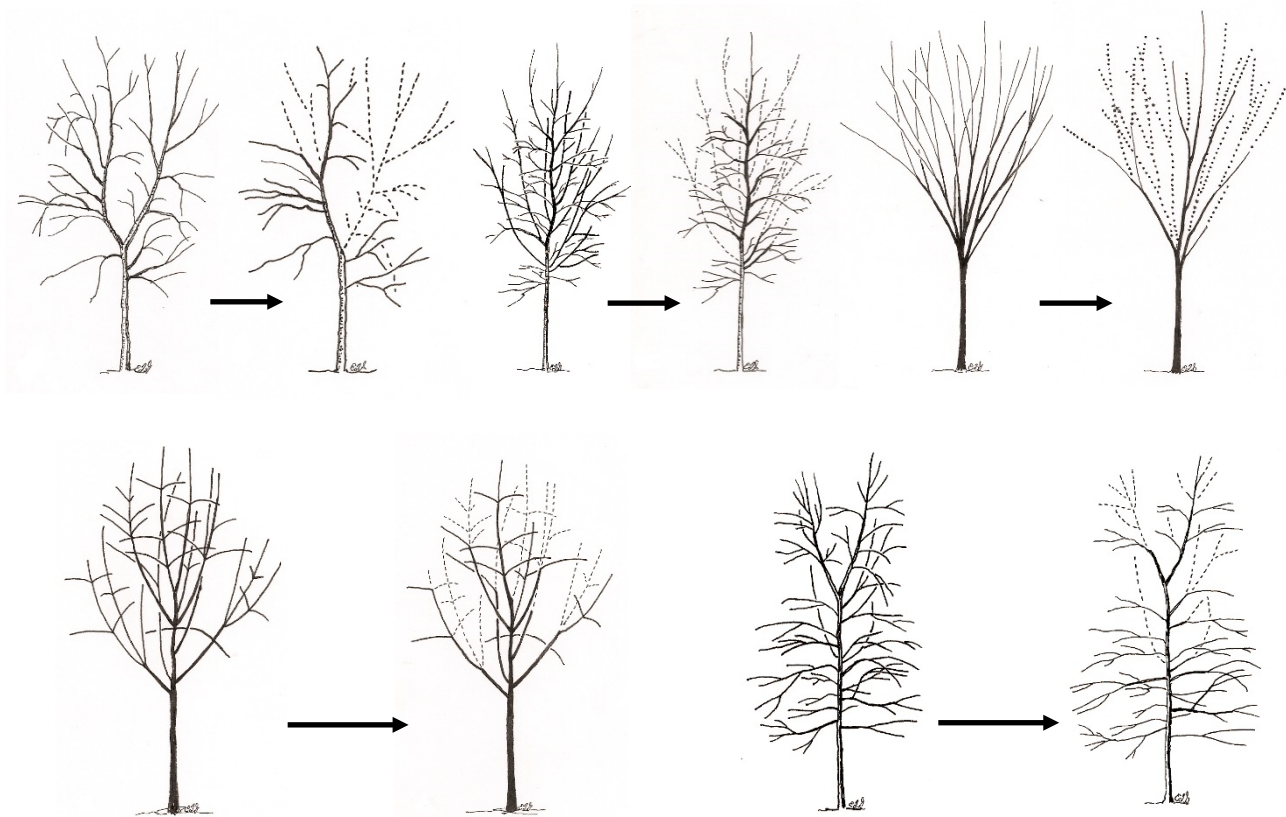

Figure 20. Before and after pruning at planting for structure.
Reduction cuts can be used on trees at planting to subordinate branches that are codominant (Figure 20). Some upright stems and branches can be removed entirely back to the trunk. Heading cuts may have to be used occasionally.
5. Reduce vigorous upright stems back to lateral branches or remove entirely (Figure 20, next page).